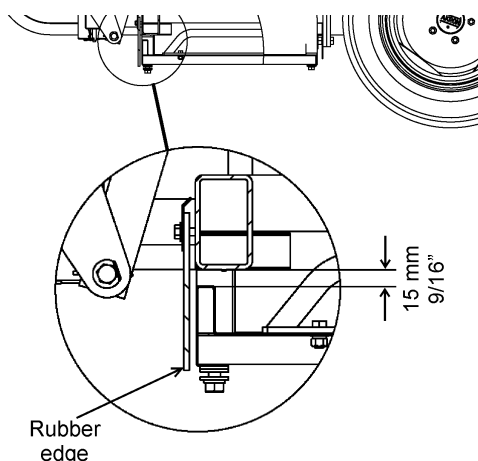

Figure 15 - Grain retainer rubber
7) Crank the winch again to tighten the turnbuckles that hold the tray until the tray is placed at 20 cm from the ground and parallel to the tunnel lower part. When adjusting the tray height, its lower part should match the rubber flap lower edge. In this way it is possible to leave a 15-mm gap between the tunnel lower part and the tray, which not only allows the grain bag folds to be easily released but also prevents grain from returning to the tray, that is, from falling outside the bag. Figure 15 and its additional details show what explained above.